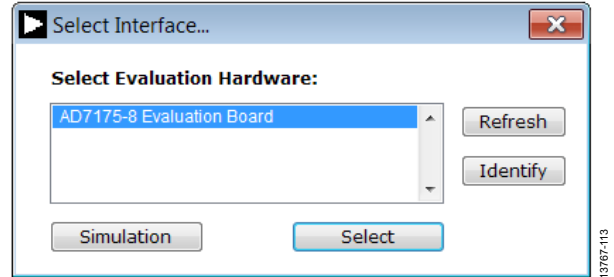
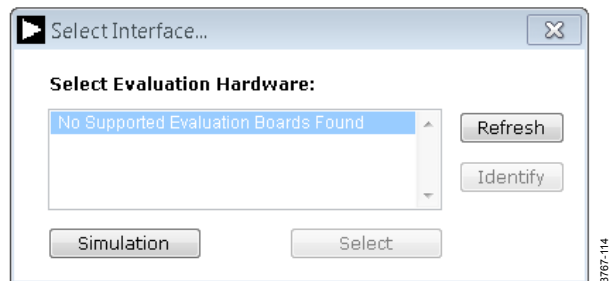
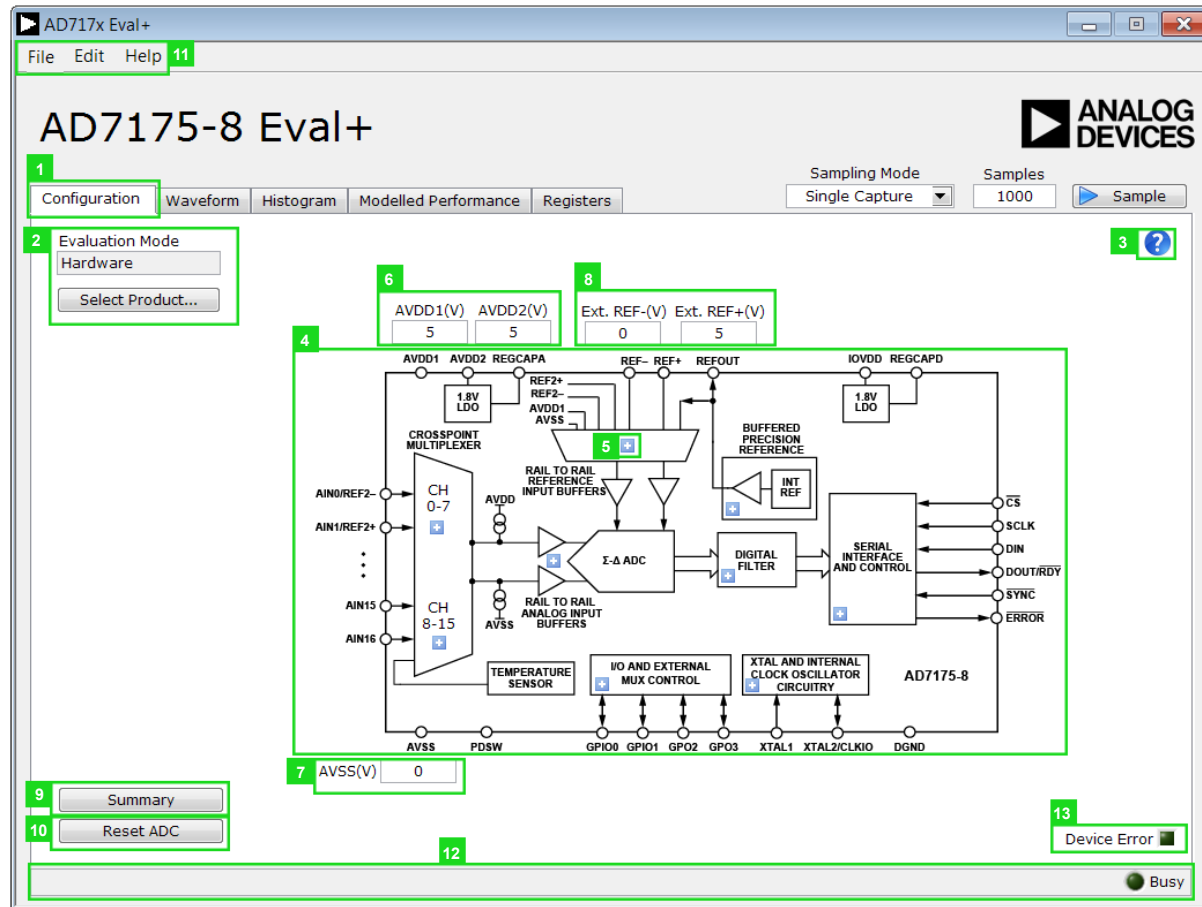
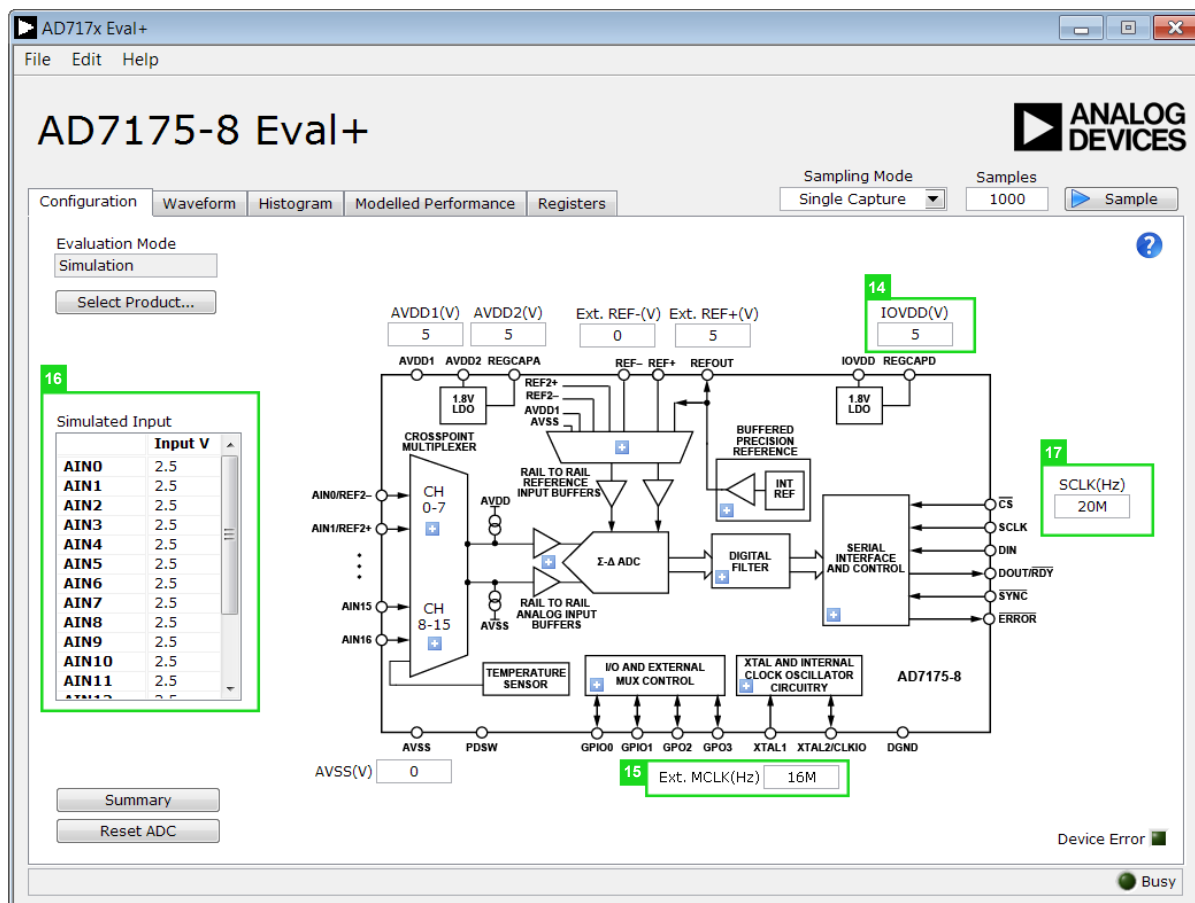

Figure 13. AD7175-8 Evaluation Board Selection
Figure 14. Evaluation Board Selection, No Board Connected
Figure 16. Configuration Tab of the AD7175-8 Eval+ Software in Hardware Mode
Figure 17. Configuration Tab of the AD7175-8 Eval+ Software in Simulation Mode
- The dialog box in Figure 13 appears, select **AD7175 Evaluation Board**. The main window of the software box displays as shown in Figure 16.
- If the **EVAL-AD7175-8SDZ** evaluation system is not connected to the USB port via the **SDP-B**, when the software is launched the **Select Interface** dialog box appears (see Figure 14). Connect the evaluation board to the USB port of the PC, wait a few seconds, click **Refresh** and the option shown in Figure 13 appears.
Figure 16 shows the Configuration tab when **Hardware Mode** is selected and Figure 17 shows the Configuration tab when **Simulation** mode is selected. The controls highlighted in Figure 17 are only available in **Simulation** mode.
The Evaluation Mode indicator displays the current evaluation mode. To switch between modes, click the **Select Product** button and the dialog box shown in Figure 13 appears.